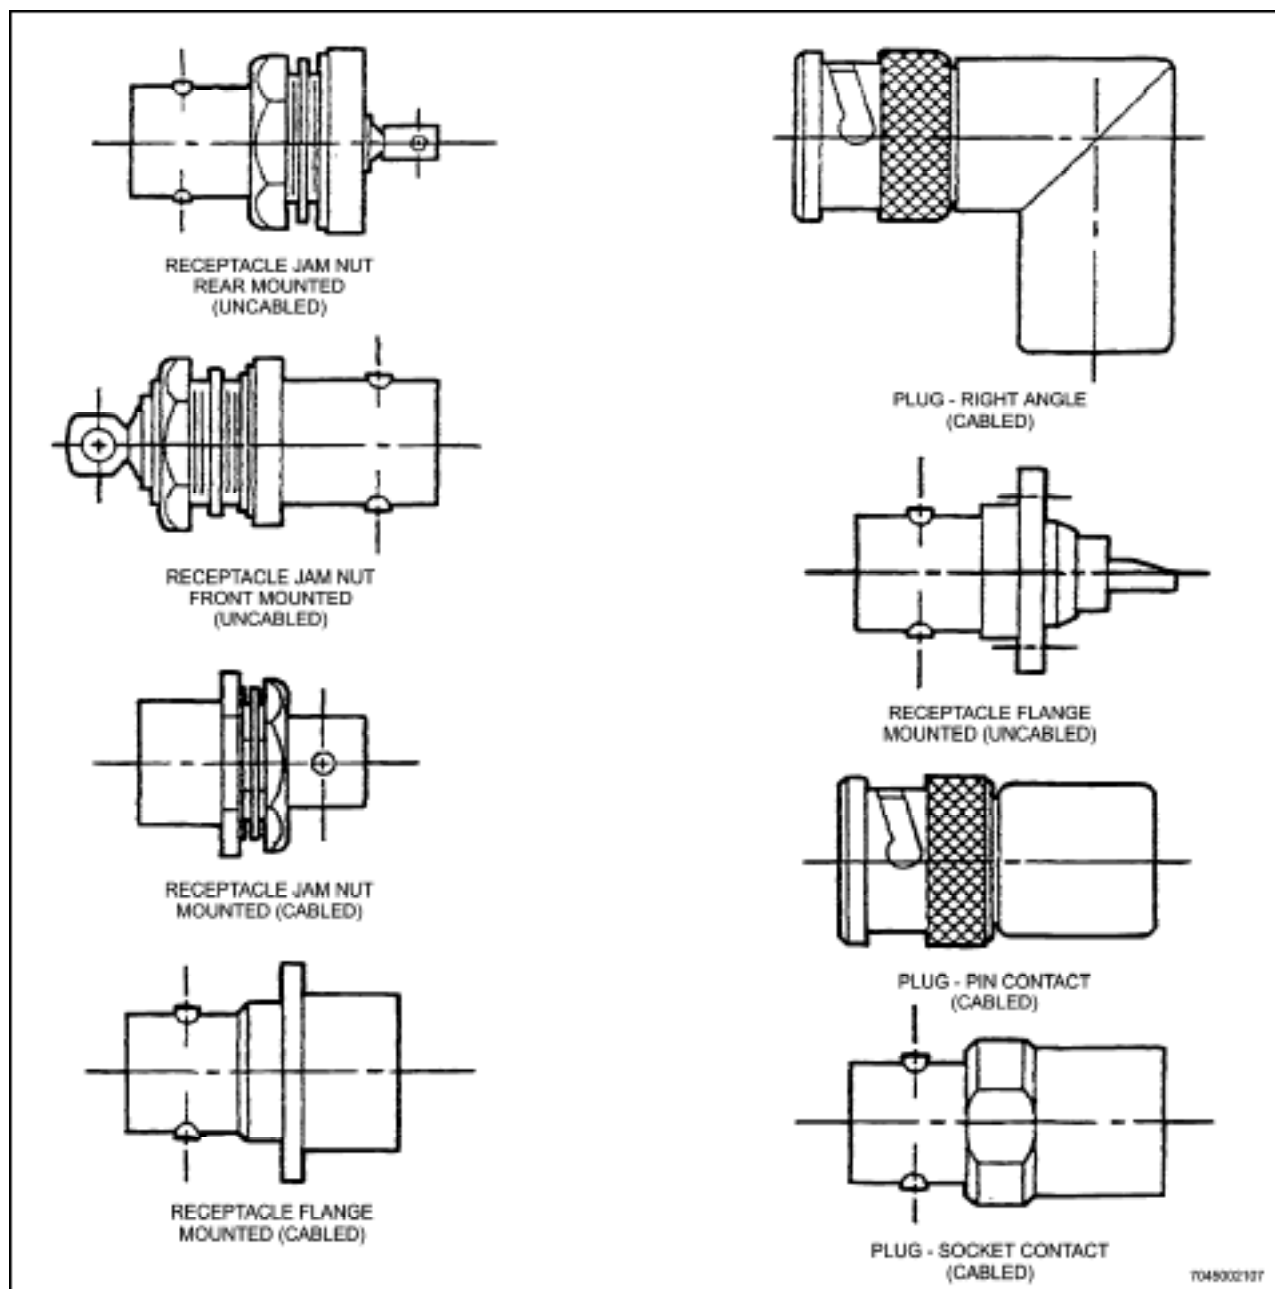

Figure 12-1 RF Connectors
4. RF connectors are available as pin-contact or socket-contact plugs. (See Figure 12-1.) All plugs are cabled and are for attaching to the ends of coaxial cables. Receptacles are designed for mounting to panels or chassis. Receptacles are either cabled or uncabled. The following categories of RF connectors are used for replacement purposes, with Category D being the preferred.